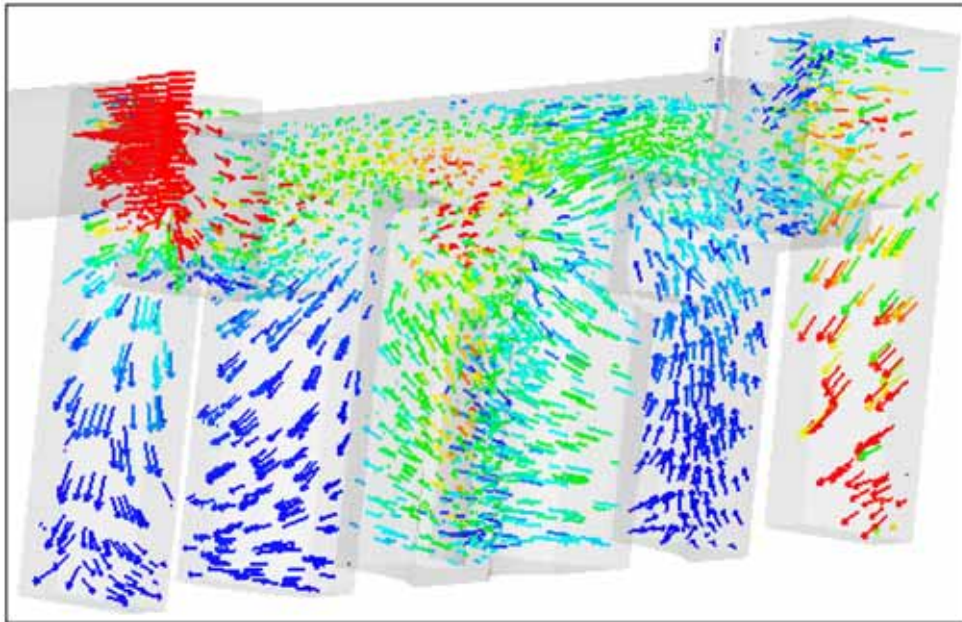

Figure 110: Velocity plot with two cutting planes
- 6.3. Click and drag the left mouse up and down to change the location of the second plane. Drag the plane so it has a narrow slice in the part, similar to Figure 110.